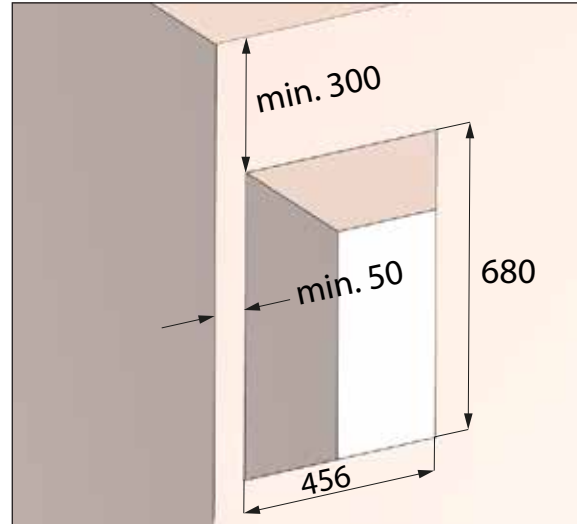

Fig. 10: Wall breakthrough for installation kit **with** filler piece, dimensions in millimetres
- Complete wall breakthrough (see Fig. 10) for installation kit **with** filler piece M-WRG-II M/Fü
- Complete wall breakthrough (see Fig. 10 on page 20) for installation kit **with** filler piece M-WRG-II M/Fü